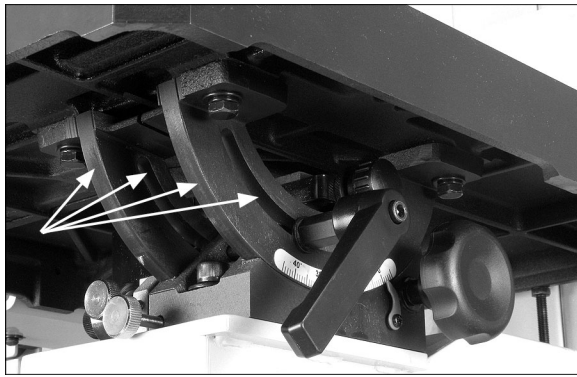

Figure 44
2. Grease the sliding surfaces of the table trunnions (Figure 44).